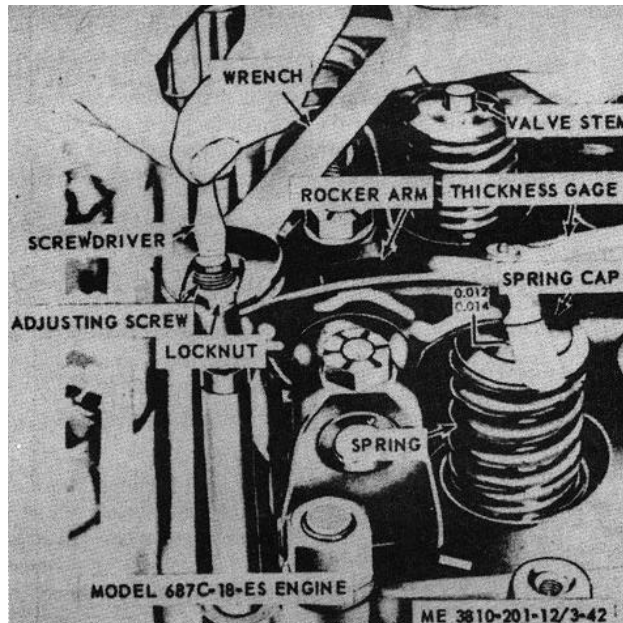

Figure 3-34. Valve (rocker arm) adjustment, model 687C-18-ES engine.
(4) Use screwdriver and adjust exhaust valve with a clearance of 0.025 inch (hot) 0.028 inch (cold) is obtained with thickness gauge (fig. 3-34).